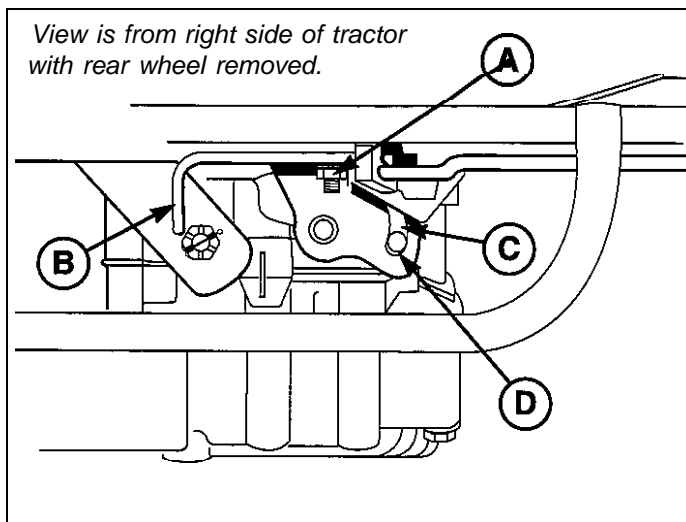

Figure 20. Neutral Adjustment - Hydro Model
3. See figure 20. Loosen the nut (A) securing the neutral adjustment rod (B). Move the rod until neutral is found, then retighten the nut.
4. The stop pin (D, figure 20) should be positioned $\frac{1}{8}$ " \pm $\frac{3}{16}$ " from the end of the cam slot (C, figure 20) as shown when the front pedal edge is $\frac{1}{4}$ " above the frame (pedal fully depressed). If it is not, proceed to the Forward Speed Adjustment procedure below.
4. The stop pin (D, figure 20) should be positioned $\frac{1}{8}$ " to $\frac{3}{16}$ " from the end of the cam slot (C, figure 20) as shown